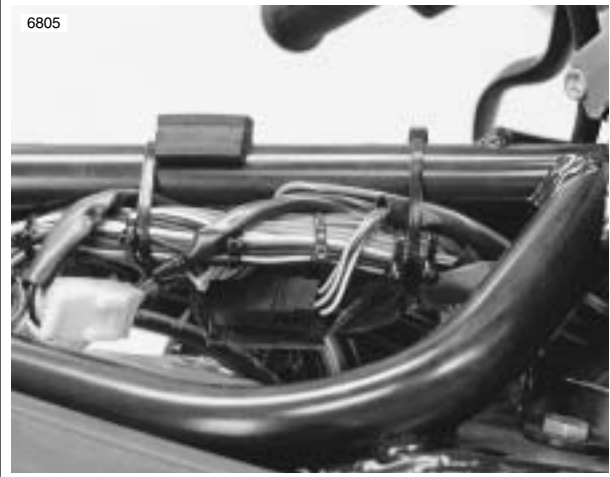

Figure 7-63. Tachometer Wiring Connector Locations (Approximate)
- b. Cut cable straps on wiring harness. See Figure 7-63. Detach wires at plug connector.
- a. See Figure 7-63. Attach wires at plug connector.